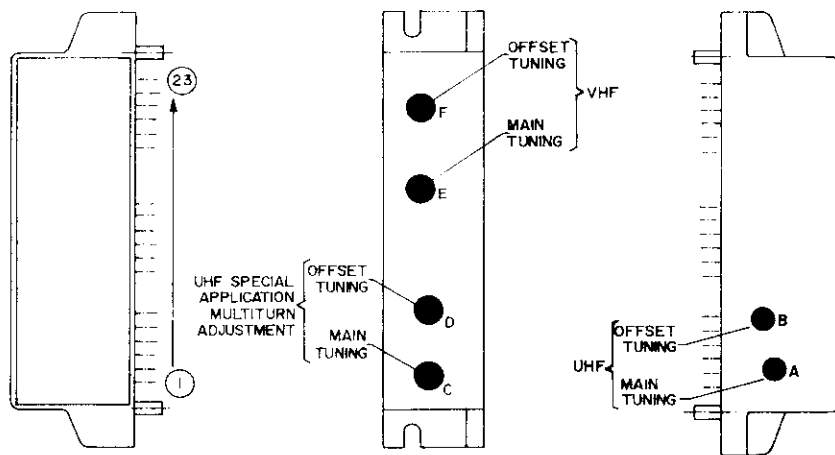

Figure 4.4 VCO Tuning Access Hole Location
4.6 VCO ALIGNMENT (See Figure 4.4)